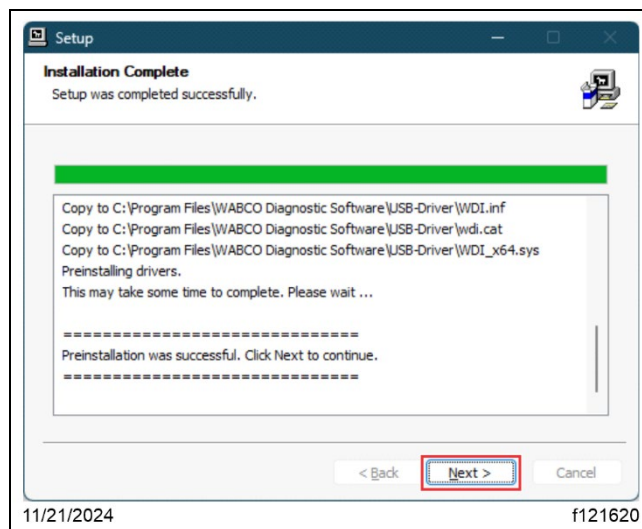

Fig. 43, Installation Complete
7.15. The 'Installation Complete' screen appears once the setup is completed successfully. Select 'Next' to continue. See Fig. 43.